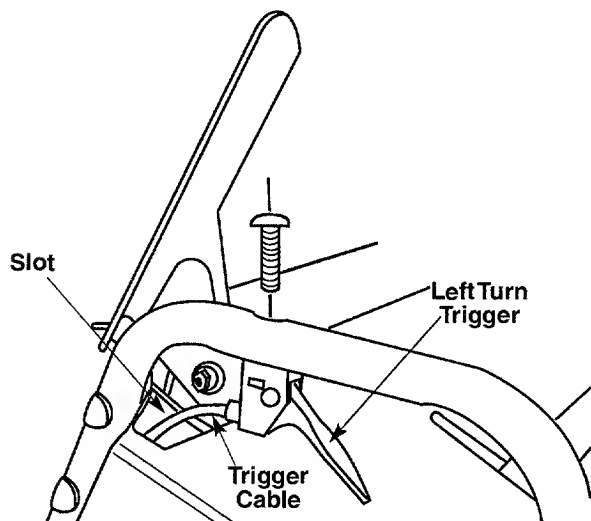

FIGURE 11
- Place the right turn trigger in position underneath the right handle. Secure with screw just removed. See figure 11. Use phillips screwdriver.